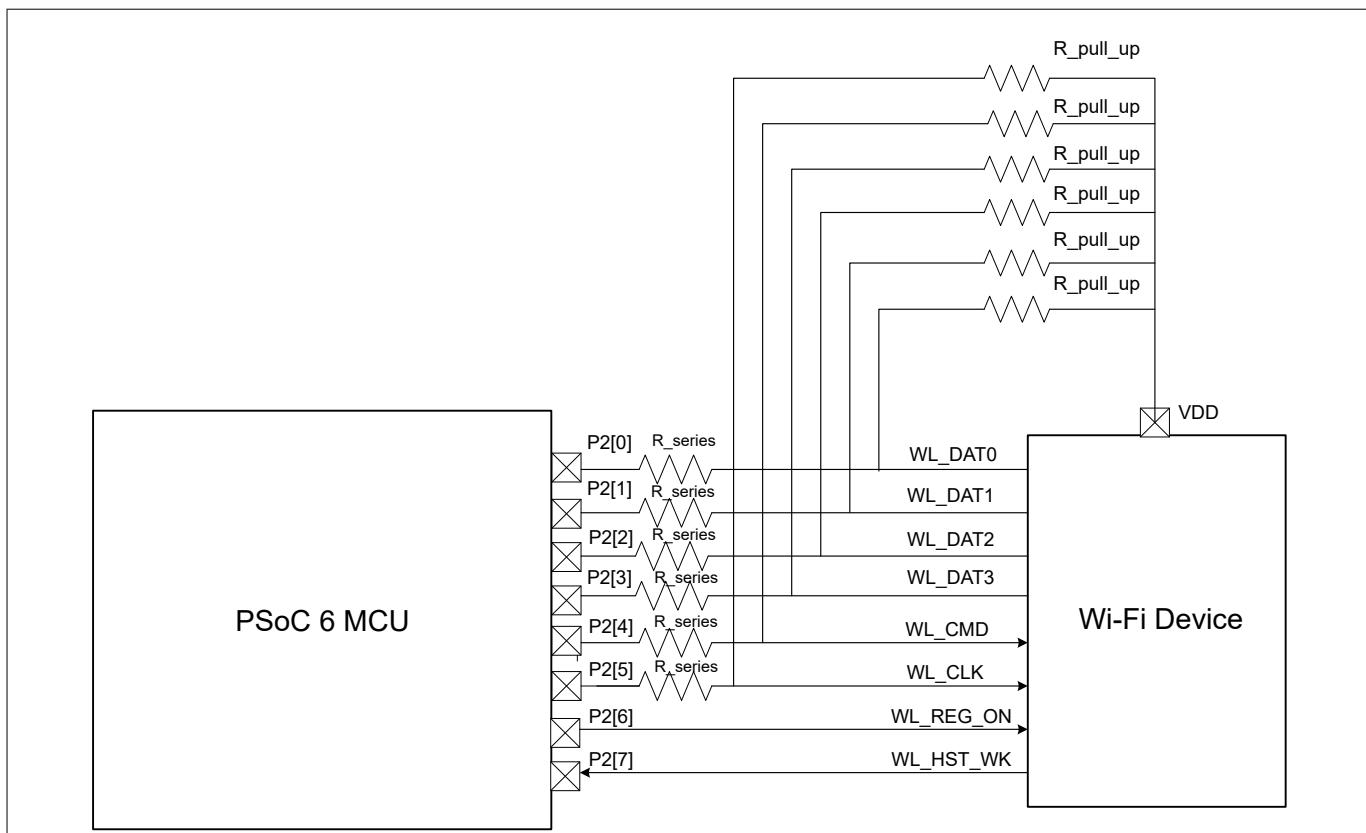
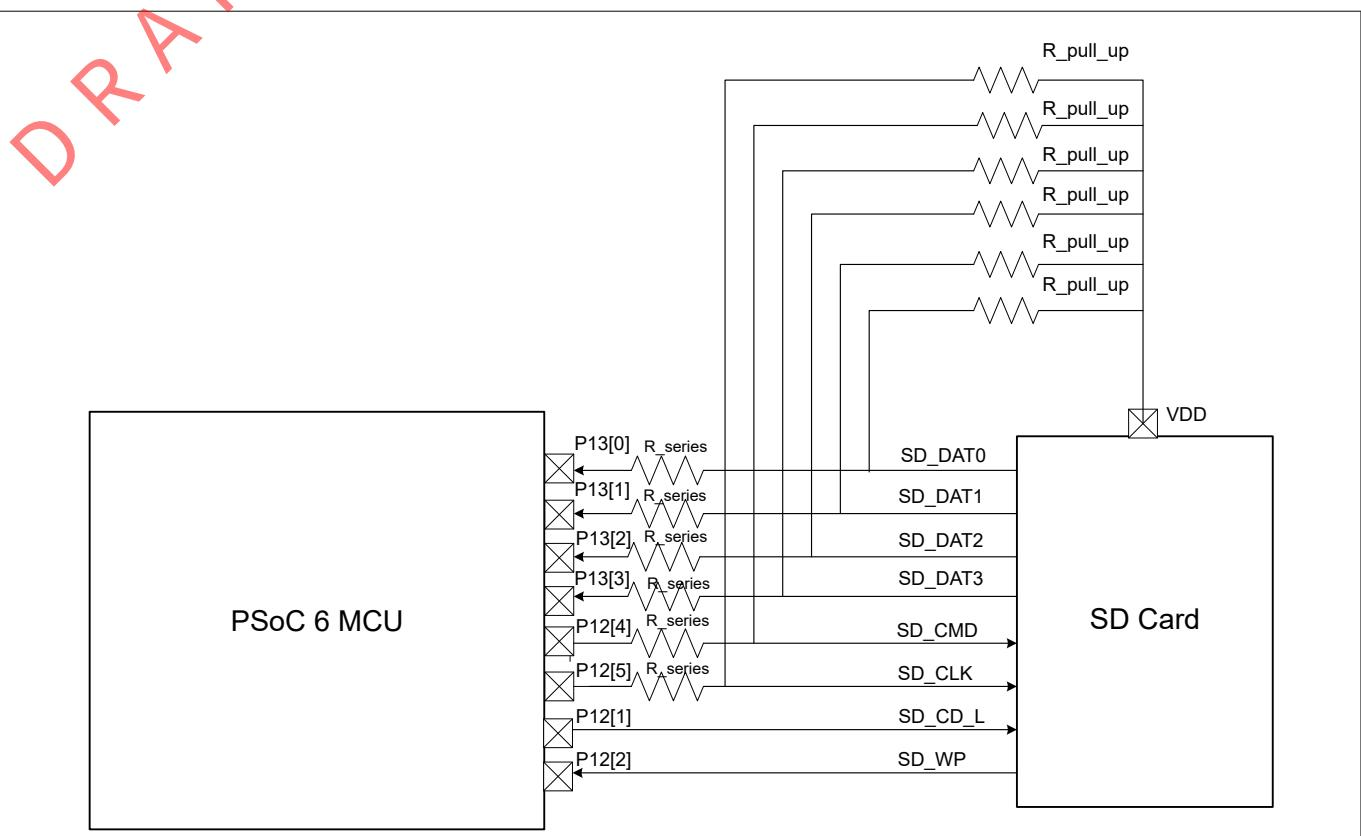

Figure 518 **Interfacing Wi-fi device using SDHC in PSoC™ 6 MCU**
Figure 519 Interfacing SD storage using SDHC in PSoC™ 6 MCU
CY8C62XA/8/5 devices of the PSoC™ 6 MCU family have up to two secure digital host controllers (SDHC). The SDHC allows interfacing with embedded multimedia card (eMMC)-based memory devices, secure digital (SD) cards and secure digital input output (SDIO) cards. The SDHC block can be used to connect devices providing the SDIO interface, such as Infineon Wi-Fi products. Figure 518 and Figure 519 shows interfacing of a Wi-Fi device and SD storage with PSoC™ 6 MCU. It is recommended to have pull-up resistors (R_{pull_up}) in the range of $10\text{ k}\Omega - 100\text{ k}\Omega$ on the SDIO lines. Also, it is recommended to use series termination resistor of $33\text{ }\Omega$ on the SDIO lines.